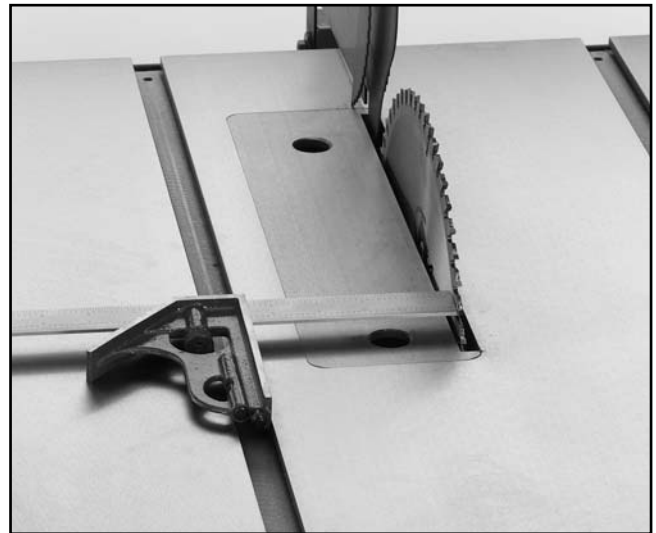

Figure 22. Adjusting blade to miter slot after rotating blade 180° and sliding square down miter slot.
4. Measure the distance from the mark on the blade to the edge of the miter slot as shown in **Figure 22**.